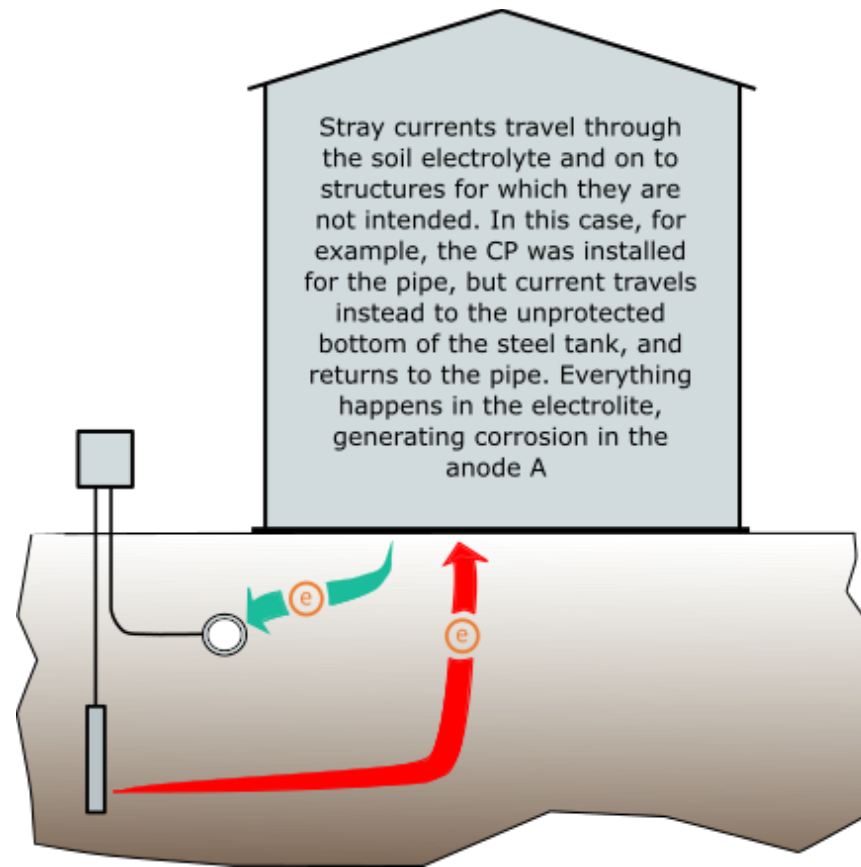

FIGURE 53 STRAY CURRENTS
**Stray currents** (also known as interference currents) travel through the soil electrolyte and on to structures for which they are not intended (Figure 53). Usually, the affected structure collects the interference currents from the electrolyte; the source of these currents is not electrically connected to the affected structure. As shown in Figure 3, stray current may enter an unprotected tank bottom and travel through the low resistance path of the metal to an area on the tank closer to the protected structure (pipeline). At this location, the current discharges back into the electrolyte (soil) at point B with resultant metal loss. The most common, and potentially the most damaging, stray currents are direct currents. These currents are generated from grounded DC electric power systems including electric railroads, subways, welding machines, impressed current cathodic protection systems, and thermoelectric generators.